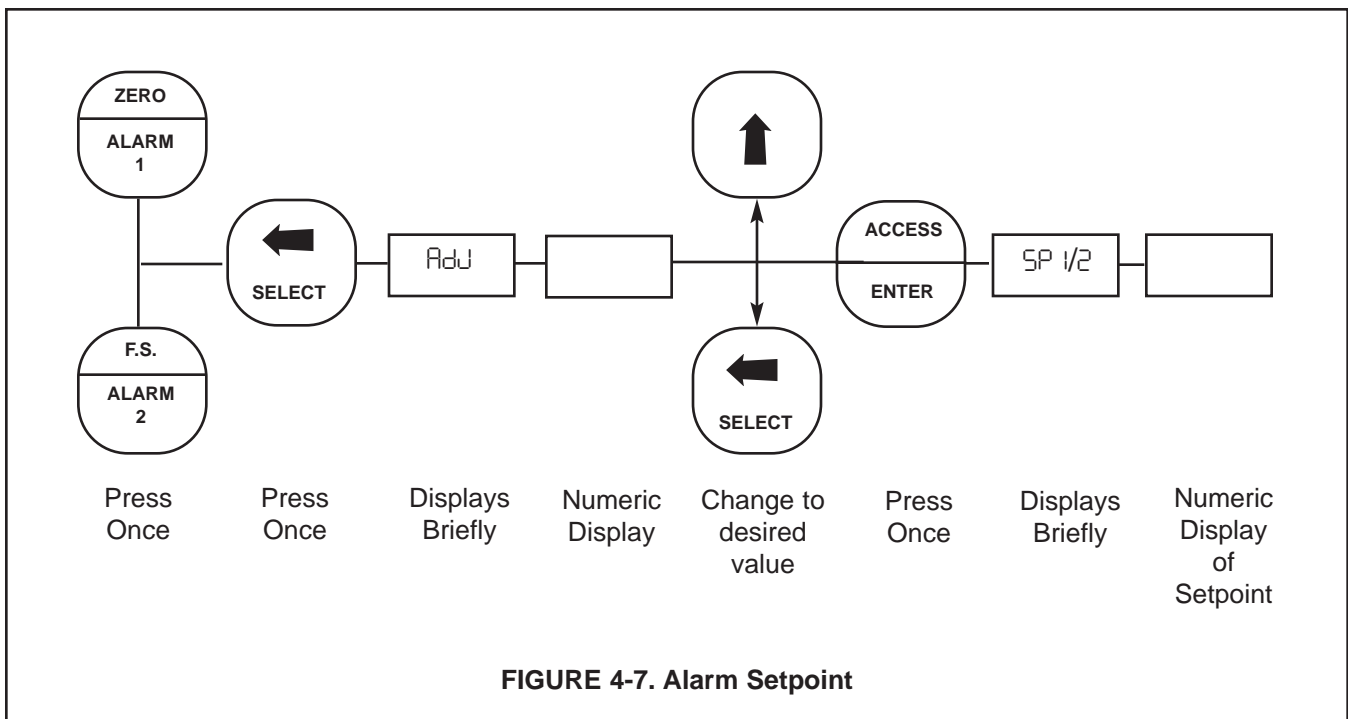

FIGURE 4-7. Alarm Setpoint
4.7 ALARM SETPOINT. The alarm setpoints should be adjusted after completing the configuration procedure outlined in Sections 4.1 to 4.6. (Refer to Figure 4-7.)